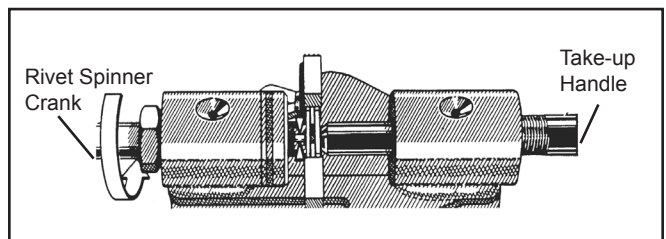

Figure 21. Centering the Rivet Hub
4. Turn the rivet spinner crank a few times to center the rivet hub in the spinner anvil (Figure 21).